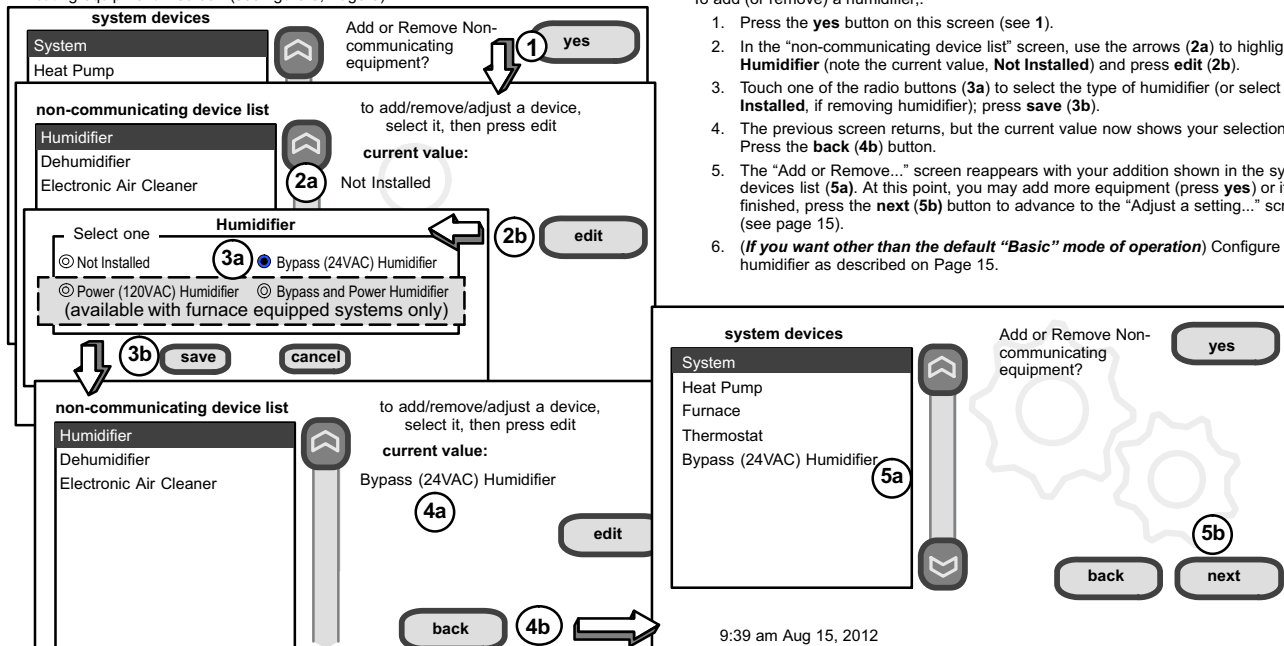

Figure 8. Add or remove non-communicating device—HUMIDIFIER
**Adding Humidifier**—The procedures in figure 8 describe adding a non-communicating humidifier which will be controlled by the Comfort Sync™ thermostat through the “H” or “HUM” terminals on the furnace or air handler.